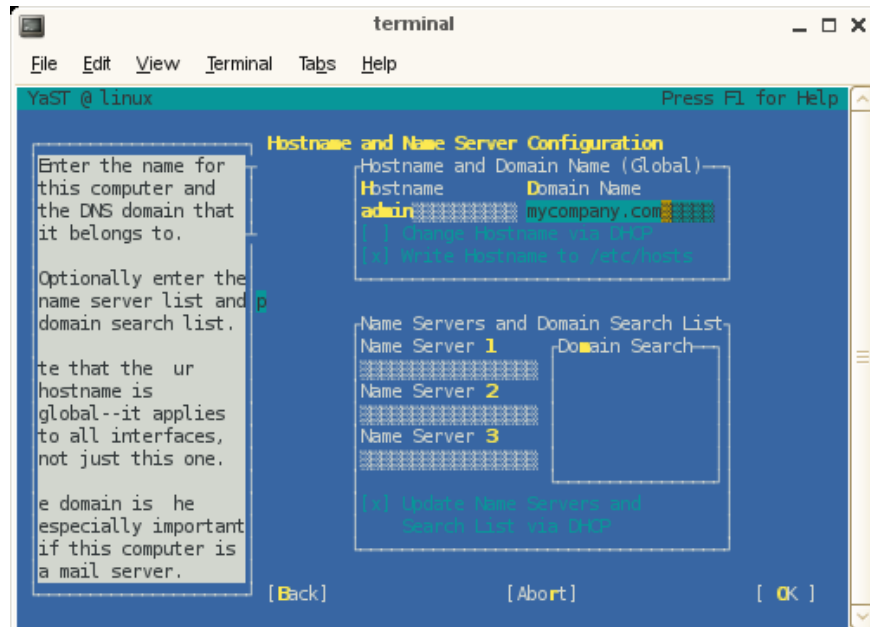

Figure 2-7 Hostname and Name Server Configuration Screen
11. From the **Hostname and Name Server Configuration** screen, enter the name and DNS domain name as shown in Figure 2-7 on page 41. Note that the hostname was entered in step 7.